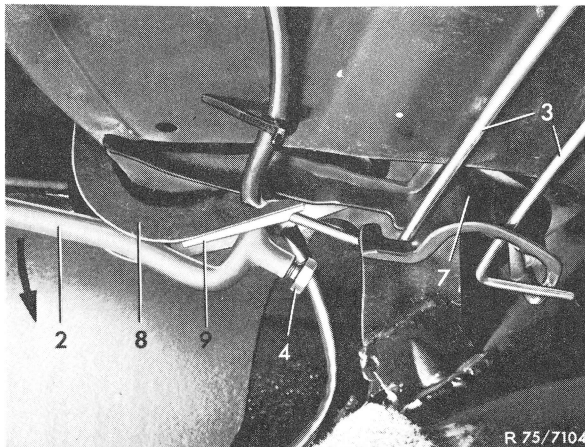

Figure 1
- 3 Position mounting lever (2) above torsion bar spring left and tighten screw (4) (Fig. 1).